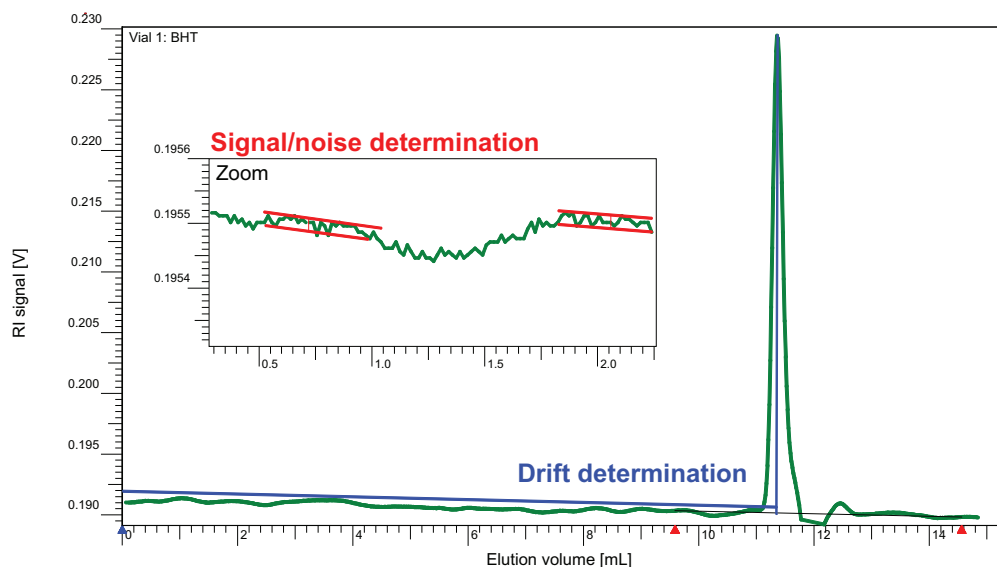

Figure 2. Determination of the drift ratio and the signal/noise ratio. Please note that the blue line has been shifted for better visibility.
- 1 Print the raw data and draw a line from the injection point to the elution volume of the peak maximum, as shown in **Figure 2**.
- 1 Zoom into the detector signal in the raw data window as shown in Figure 2, print it and draw two parallel lines around the signal. For this test only, the short time noise is relevant; long-term signal instabilities should not be considered.